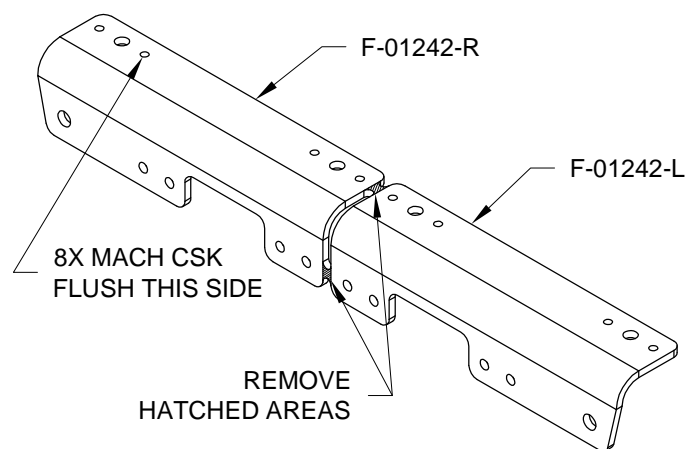

FIGURE 1: COUNTERSINKING & SEPARATING F-01242
Step 1: Machine countersink #40 nutplate attach holes, then separate F-01242 into right and left parts as shown in Figure 1.